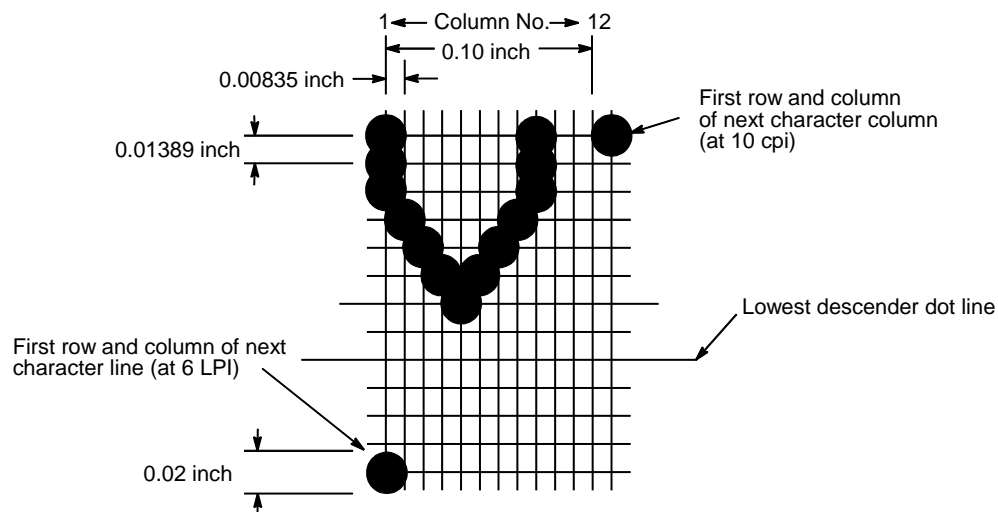
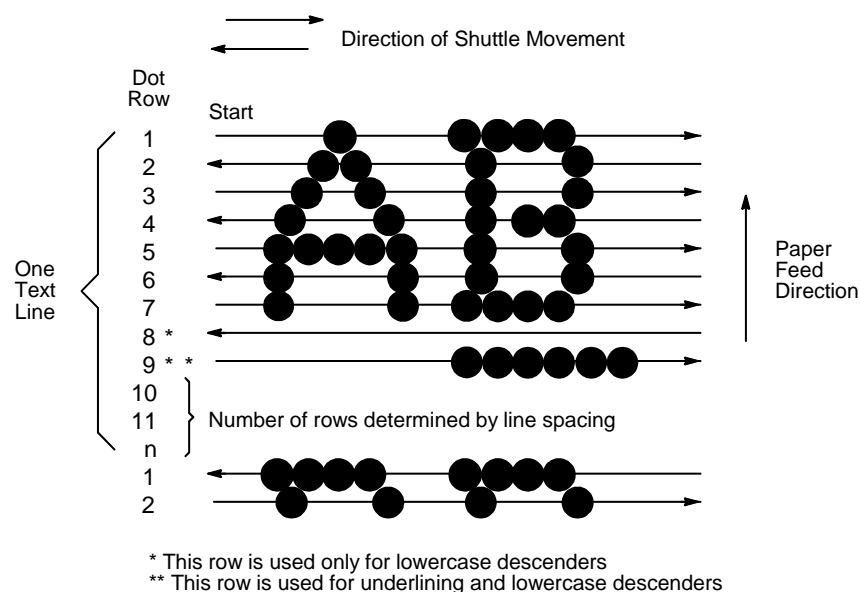

Figure 47. A Dot Matrix
Figure 48. Standard Character Formation
Every text character is stored in printer memory as a pattern of dots on a logical grid called the dot matrix. (Figure 47.) The ink dots are made by a row of small hammer springs mounted on a shuttle that sweeps rapidly back and forth. Logic circuits divide every line of incoming data into horizontal dot rows. The hammers put dots at the required positions for the entire line by striking an inked ribbon and the paper.
The dot matrix patterns of text characters vary according to the font the user selects. For example, in the data processing (DP) font at a line spacing of six lines per inch (lpi), a dot matrix contains 12 dot rows from the top of one character line to the top of the next. (Figure 47 and Figure 48.) At eight lpi there are nine dot rows per character line, at nine lpi there are eight dot rows per character line, and so on.